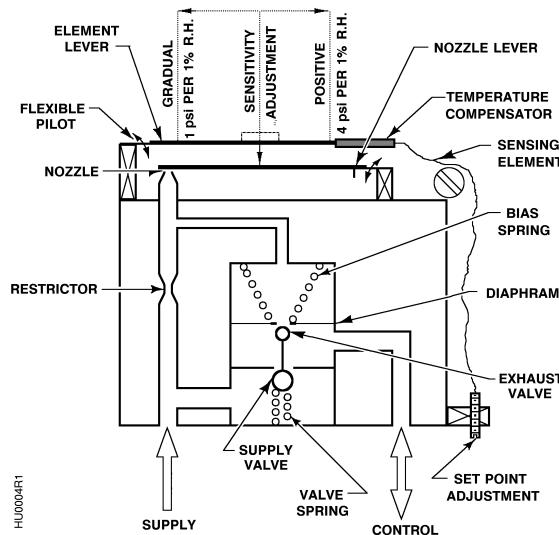

Figure 4. Hygrostat Operation.
Here the basic sensing and lever movement is the same as described above. See Figure 4. However, the nozzle is in a different location; it's on the opposite side of the nozzle lever. Thus a decrease in humidity results in the flapper pulling away from the nozzle and decreasing the control pressure.
Sensitivity will be 4 psi per 1% rh at the end nearest the element, down to 1/4 psi per 1% rh at the end attached to the flexure pivot. See Figure 4. An overtravel spring on the sensitivity adjustment assembly prevents damage to the nozzle on a reverse acting hygrostat.
1. If excessive air leakage occurs and the control pressure does not drop to 1/2 psig when the nozzle lever is pulled away from the nozzle, then there is dirt on one of the relay ball valves. See Figure 4 in the *Operation* section.
3. Disassembly of the body (19) and base (20) to access the relay is not recommended.